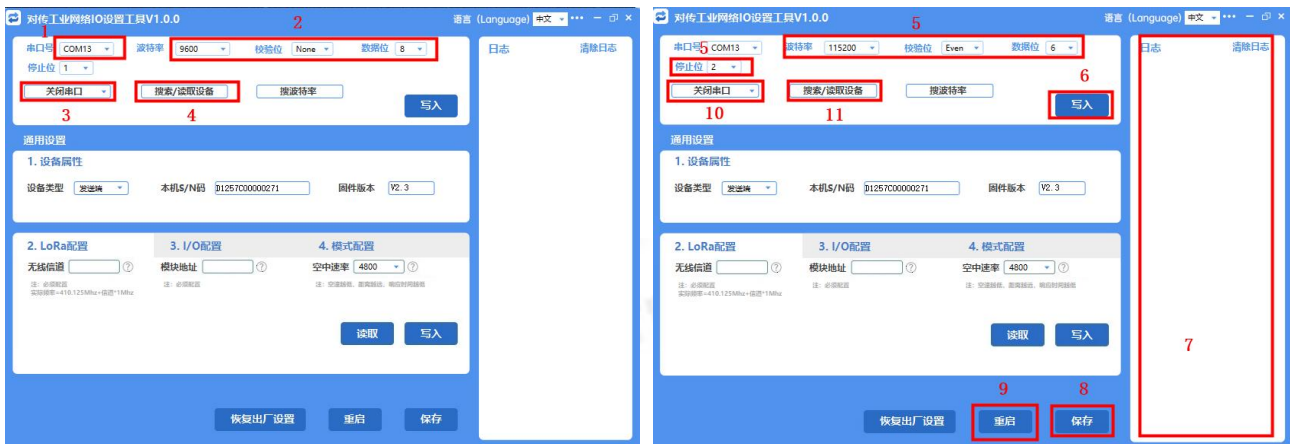

Figure 4-10 Change write serial port parameters
(1) Write content of serial port parameters: baud rate, check bit, data bit, stop bit.
(2) This function can only be changed and written when 485 data transparent transmission is turned on, in order to match the serial port parameters of other products of the user. In other cases, users are advised not to change the serial port parameters of this product.
(3) Steps (as shown in Figure 4-10 below): Select the correct COM port number and correct (default) parameters → click "Open Serial Port" (if the parameters have been changed and forgotten, they can be restored to factory settings) → "Search/Read Device" → Read successfully → Change as required: baud rate, parity bit, data bit, stop bit parameters → click "Write" → "Log" column to see a successful prompt → click "Save" → click "Restart" → complete changes